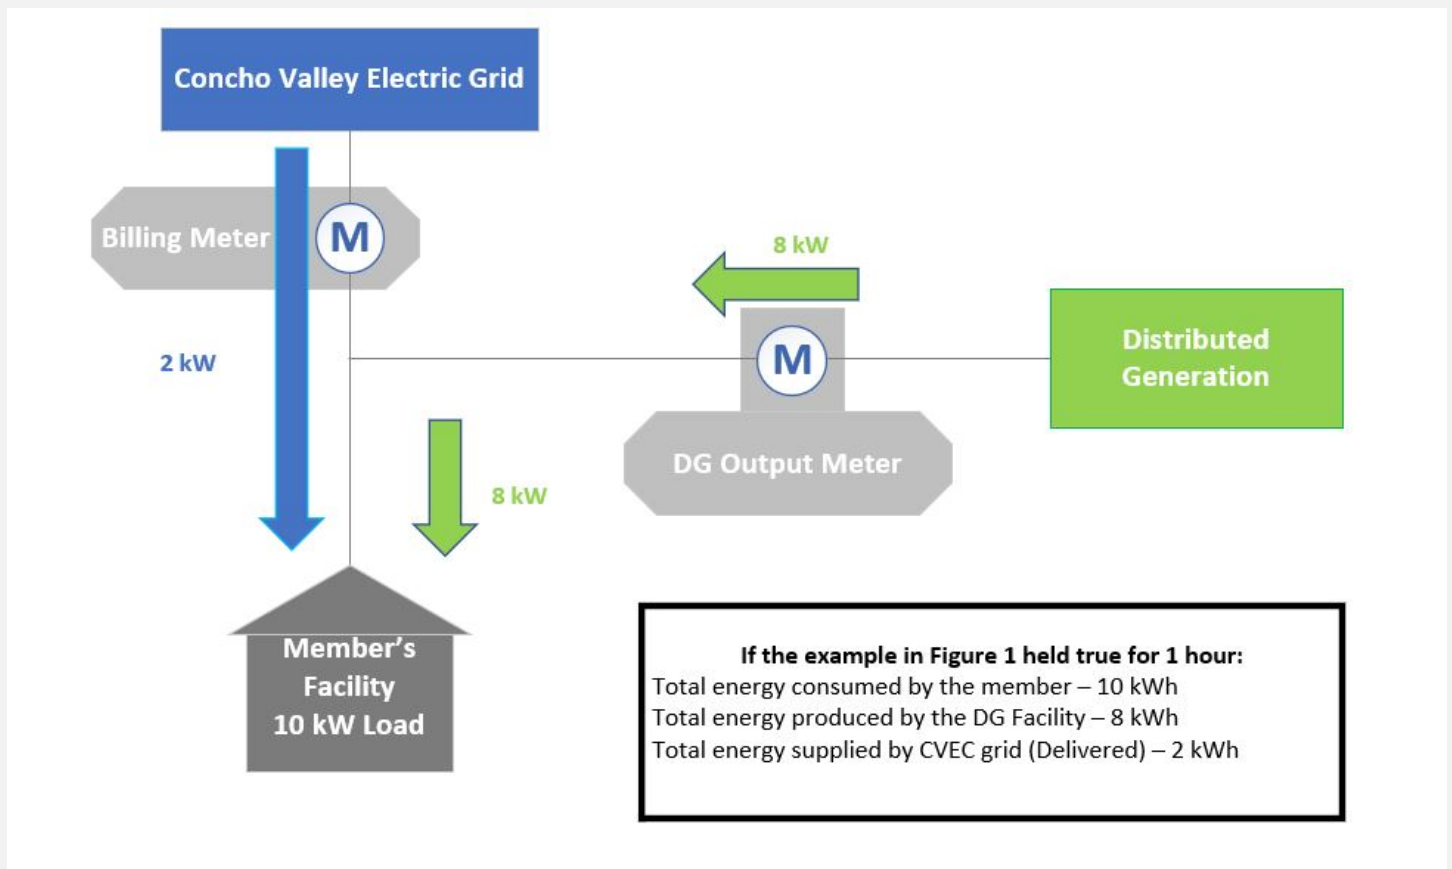
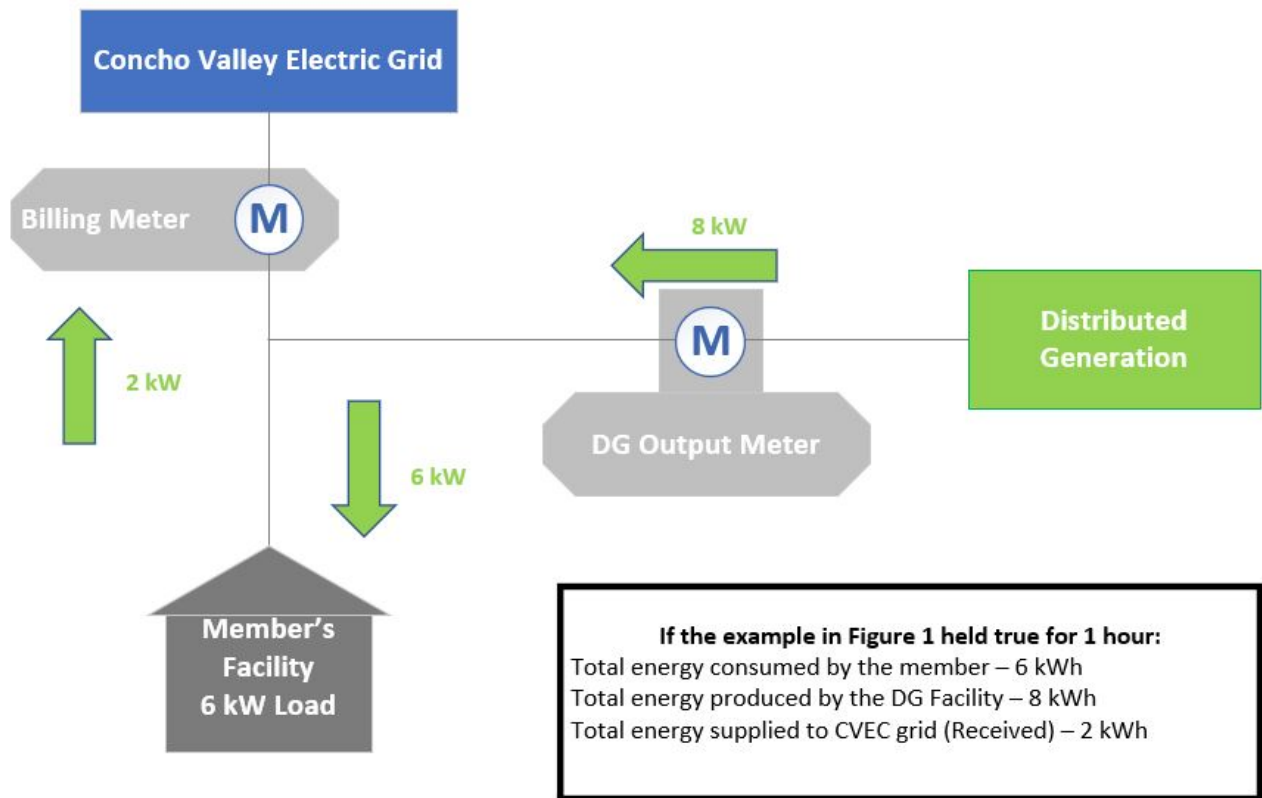

Figure 1.
Figure 2.
Energy generated by your DG facility will flow through CVEC's Distributed Generation (DG) output meter and into your home. Your home will absorb all the energy needed from your DG facility and will pull energy from the CVEC grid to satisfy your load (Figure 1). If your DG facility produces more energy than your home needs, the excess will flow back onto the CVEC grid (Figure 2).